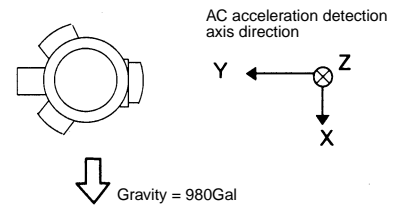

Figure 1A X-axis FSG measurement ( $\alpha X_{-980}$ )
- (1) Put this unit in the posture shown in Figure 1A.